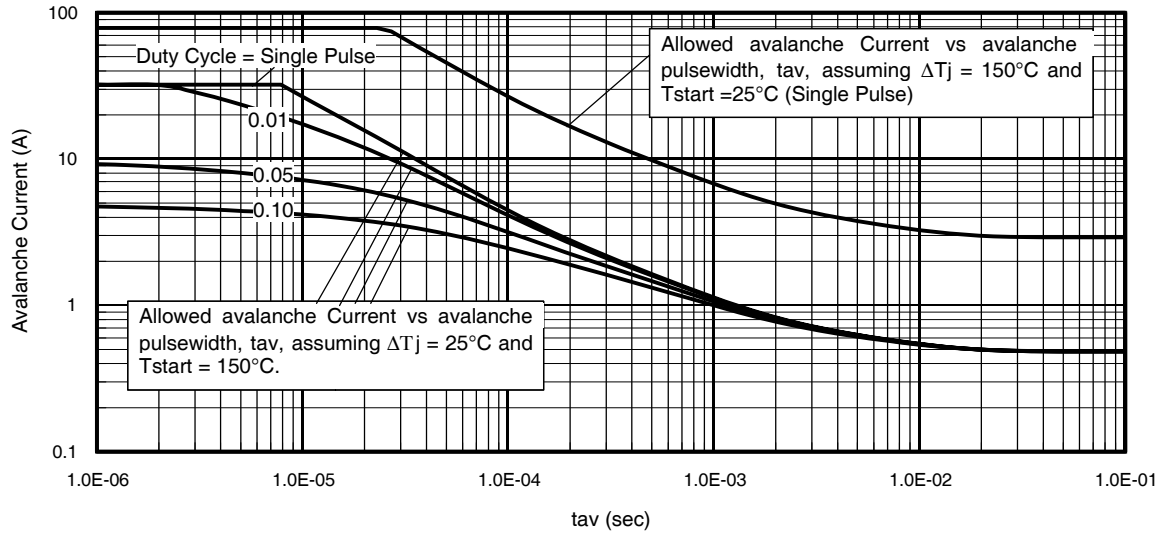

Fig 14. Typical Avalanche Current vs. Pulsewidth
Notes on Repetitive Avalanche Curves , Figures 14, 15:
7. ΔT = Allowable rise in junction temperature, not to exceed T_{jmax} (assumed as $25^\circ C$ in Figure 14, 15).